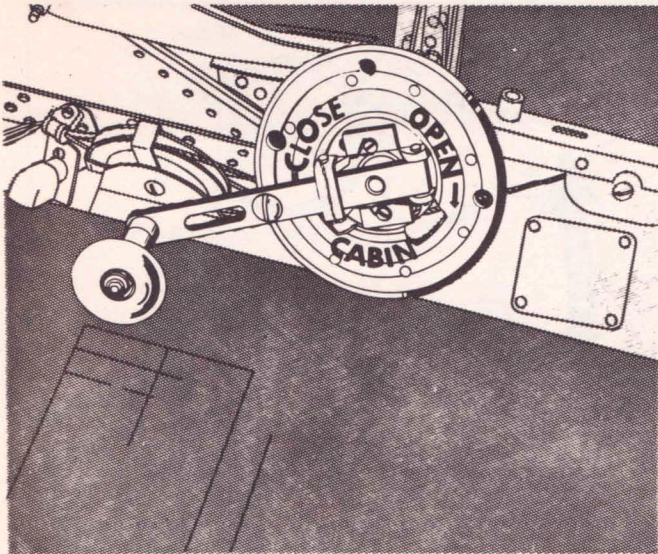

Figure 20—Pilot's Cabin Crank
(2) **PILOT'S COCKPIT ENCLOSURE.**—The pilot's cockpit enclosure is operated by means of a crank and drum mounted on the right hand sill immediately above the right console. (See figure 20.) Clockwise rotation of the crank opens the enclosure; counterclockwise rotation closes it. In order to prevent accidental closing of the enclosure during